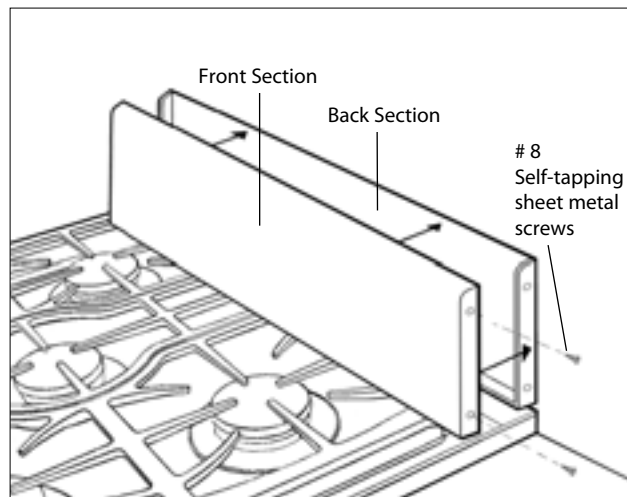

Fig.08
3. Secure Front Section of backguard to Back Section with #8 self-tapping sheet metal screws supplied (fig. 08).